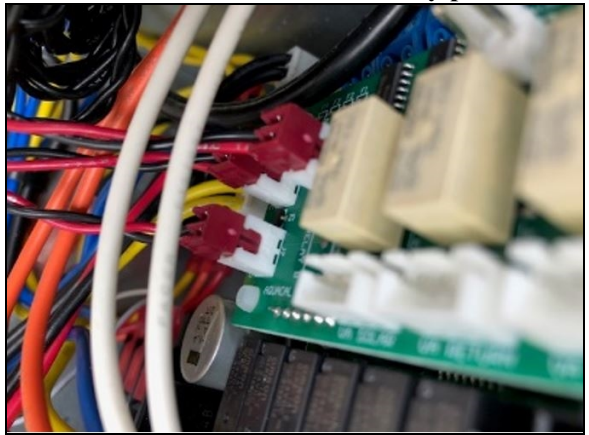
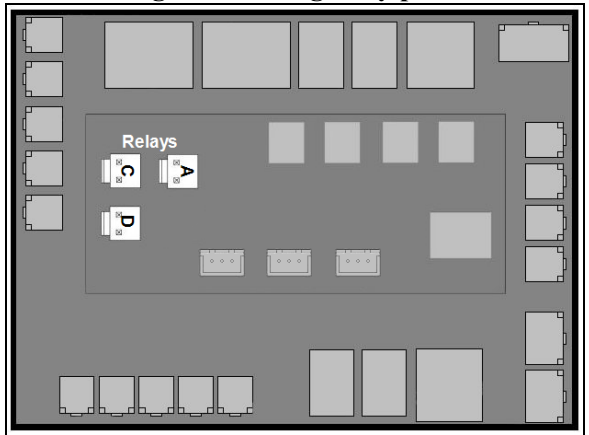

Figure 7
Figure 8
7. Connect control wire to heat pump expansion board relay ports. See Figure 7 and Figure 8.